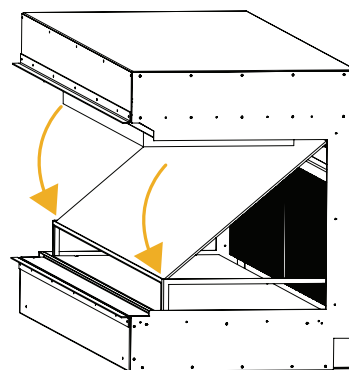

Figure.9.3 | Place glass in front side profile
- Place the front side of the effect glass in the metal profile. See Figure 9.3.